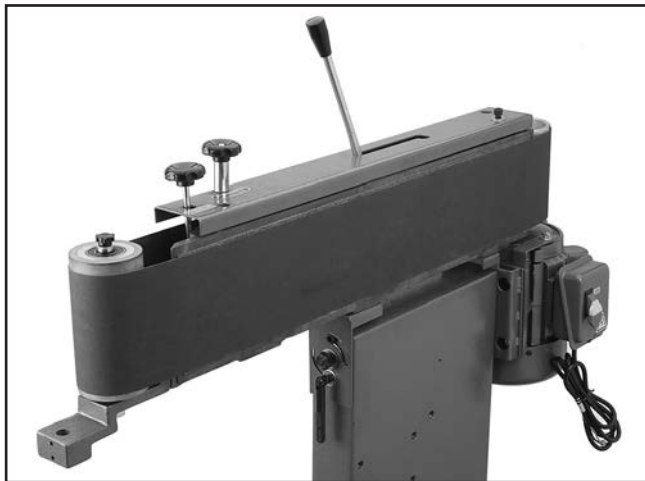

Figure 11. Sanding belt installed.
8. Move the tension lever back to its tensioned position, as shown in **Figure 11**. Belt pre-tracking and tracking are covered on **Pages 18 and 19**.